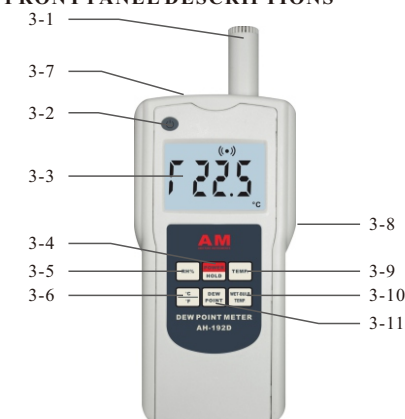

Fig. 1
8.1 Slide the Battery Cover (Fig. 1 , 3-7) away from